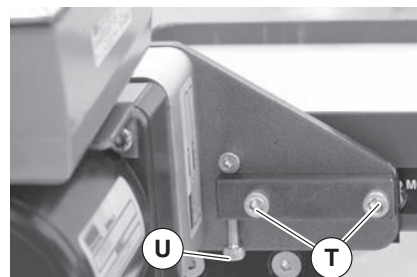

**Figure 8**
1. Locate the drive shaft grease fitting (Figure 8, item S). Lubricate pulley bearings through the grease fitting.